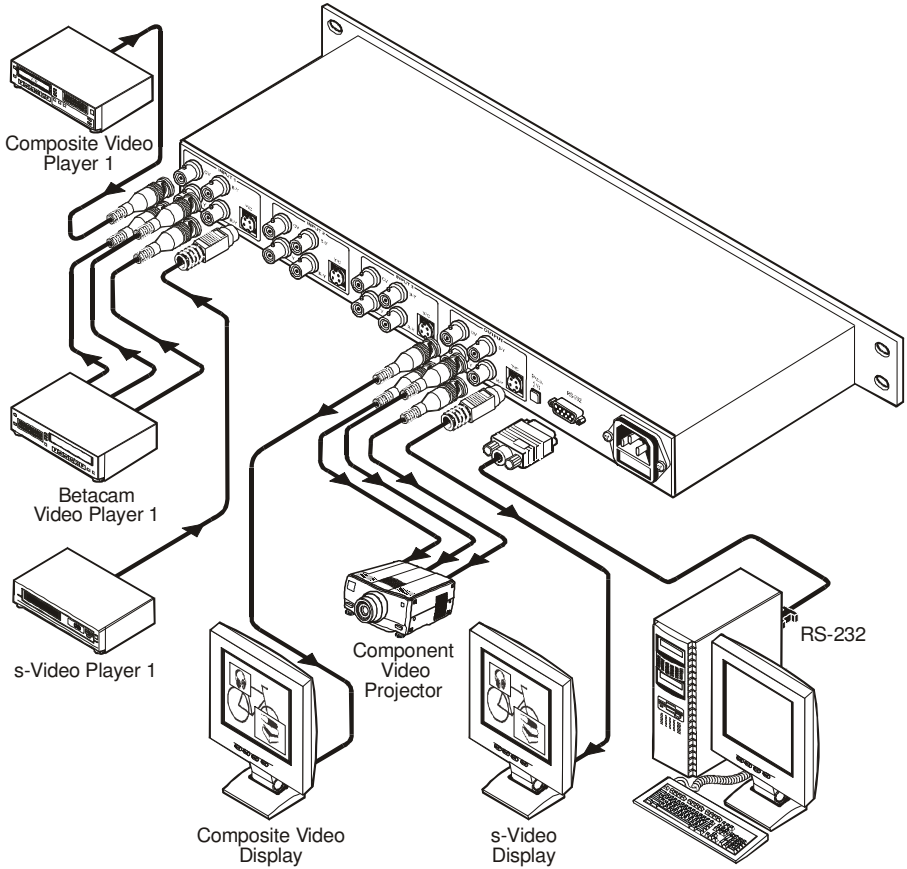

Figure 3: Connecting the PIP-300 Picture in Picture Inserter
To connect your **PIP-300**1, as the example in Figure 3 illustrates, do the following2:
4. Connect the power cord6 (not illustrated in Figure 3).